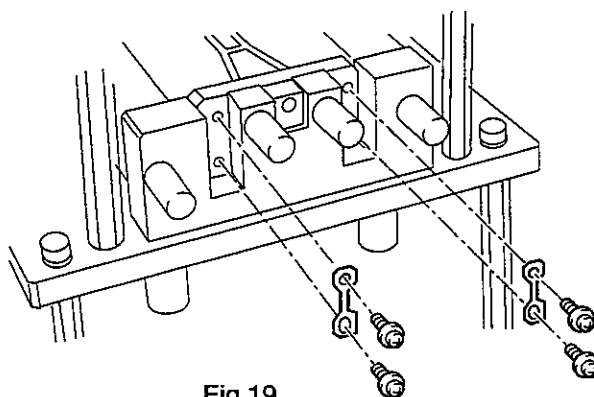

Fig.19
- Step 2. Attach the force motor to the alignment fixture (at the fulcrum flexure support) and install the fulcrum flexures (Fig 19, 20, 21 & 22).